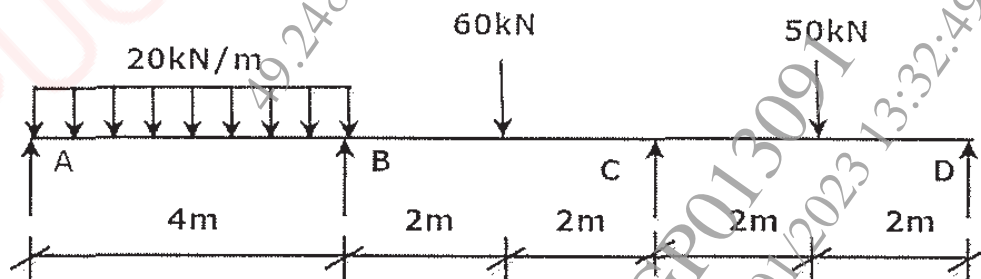

Figure 5
- Q3) a) Analyze the continuous beam ABCD shown in figure 5 by moment distribution method and draw BMD. Assume uniform flexural rigidity. [12]